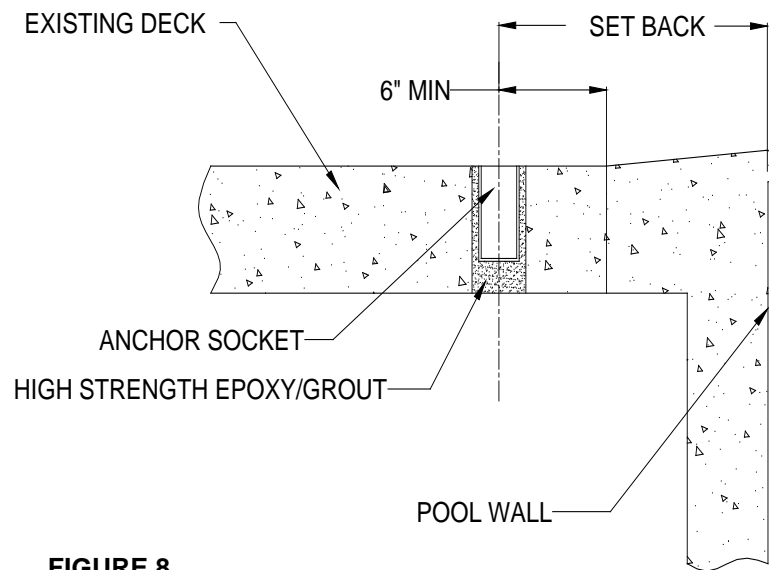

FIGURE 8
5. For anchor 27-107, Core drill at least a 6 ½-inch diameter hole at the chosen location for the anchor if installing the mounting anchor into an existing deck. See **FIGURE 8**. For anchor 27-108, core drill two holes at least a 6 ½"-inch in diameter and cut or chip out the concrete from in between the two holes. The anchor needs to be braced so it is not moved from its proper position during pouring of the deck.